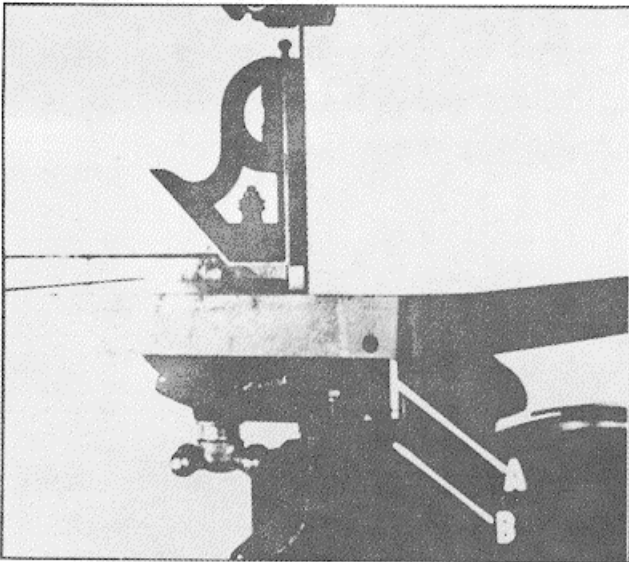

Fig. 12
2. Place the stop (A) Fig. 12, on the adjusting screw.
4. When the table is at 90-degree angle to the blade, the stop (A) should come into contact with the bottom of the table. If an adjustment is necessary, loosen nut (B), Fig. 12, and turn adjusting screw until the stop (A) contacts the table.
5. It is necessary to remove the stop (A) Fig. 12, when tilting the table to the left.